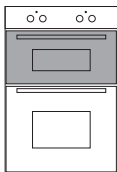

Figure 7a
- **Top oven:** Assemble the wire racks on the oven walls using the 2 screws (fig. 7a).
- Unscrew the fixing screws and slide off the wire racks (and the catalytic liners for the bottom main oven only) to the oven wall as in figs. 7a, 7b.